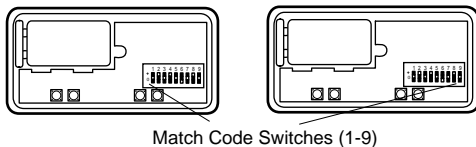

**Figure 1**
**Code switch remote controls are used when several persons are operating the same device. Code switches must be set to matching positions in all remote controls used to operate the same receiver. Follow the instructions for Figures 1 and 2. Use the "ribbed" push button exclusively for code switch application.**
1. Remove the battery compartment cover as shown in Figure 1.